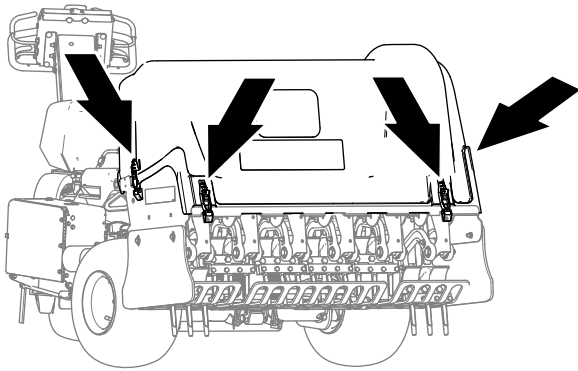
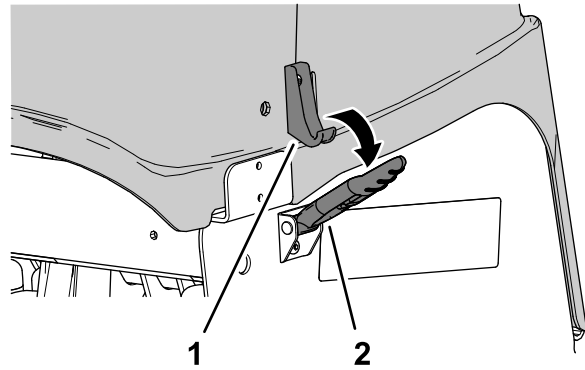

Figure 137
Figure 139
4. Unlatch the coring head cover at the 4 latch location (Figure 137 and Figure 139).